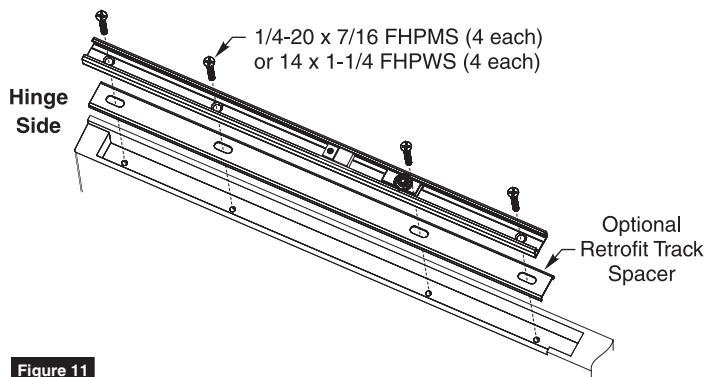

Figure 11
2. Install track and, if necessary, optional retrofit spacer (replacement application only, consult factory) using either four (4) provided 1/4-20 x 7/16" FHPMS screws for metal door or four (4) provided #14 x 1-1/4" FHPWS screws for wood door. (Figure 11)